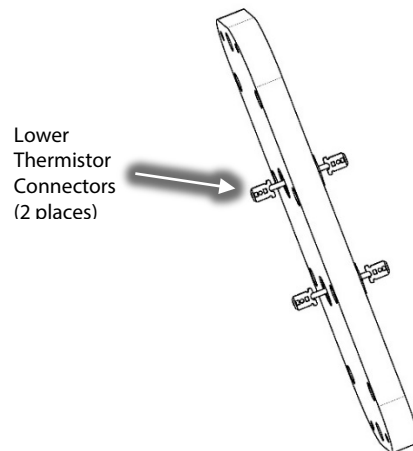

Figure 7 – Thermistor Wire Removal
17. Lift the Cover Plate and gently unplug the lower thermistor connectors. Refer to Figure 7 (Thermistor Wire Removal).